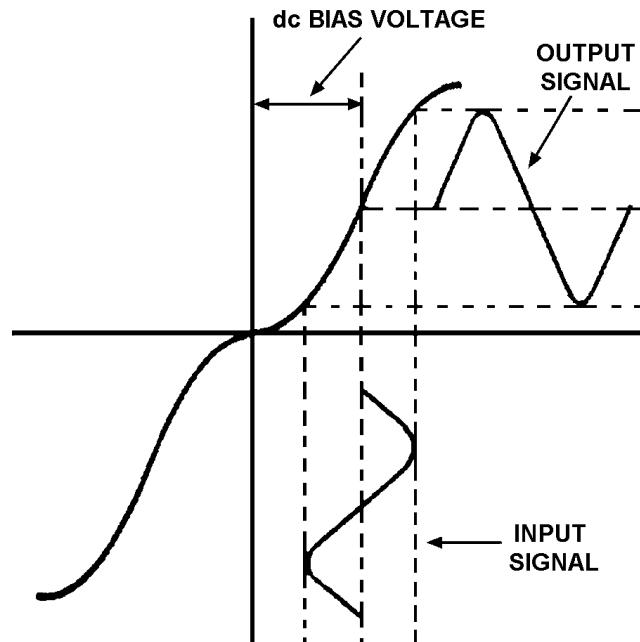

Figure 1-2.—Magnetic recording with dc bias voltage.
In 1907, Mr. Poulsen discovered a solution to this problem. He discovered *dc* bias. He found that if a fixed dc voltage were added to the input signal, it moved the input signal away from the *step* in the magnetism curve. This prevented the input signal from crossing the zero-point of the magnetism curve. The result is an output signal exactly like the input signal. Figure 1-2 shows this process.
- A-2. *The dc bias moves the input signal away from the step in the magnetism curve. This prevents the input signal from crossing the zero-point of the magnetism curve. See figure 1-2.*